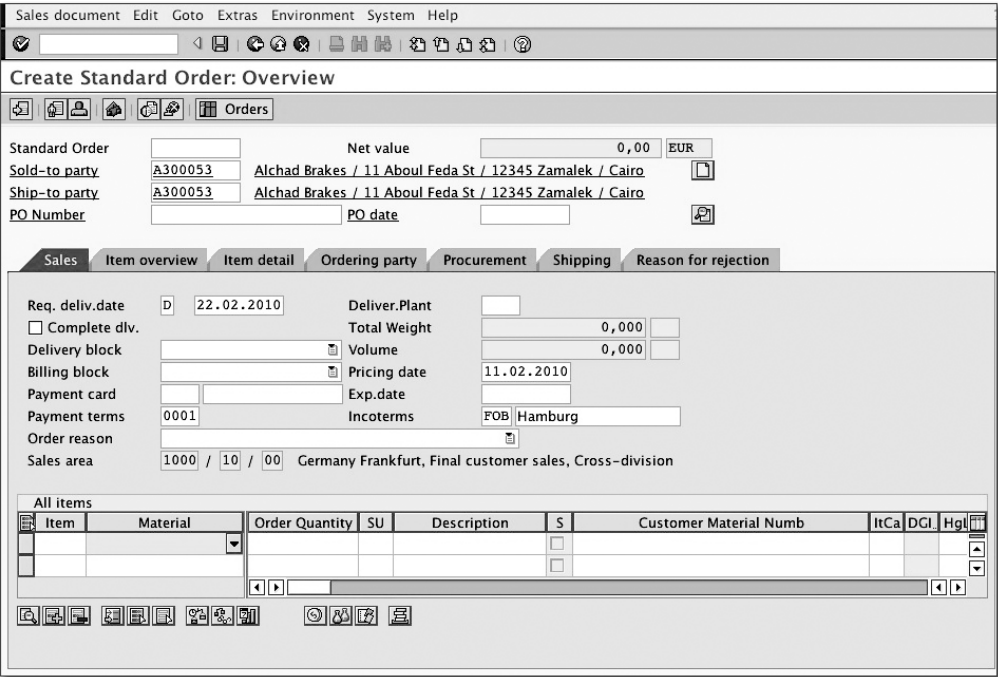

Figure 3.13 Create Standard Order – Overview Screen
2. Enter the number for the customer sold-to that you've maintained in your item proposal, as shown in Figure 3.13, and press **[Enter]** to determine other partners.
- 2. Enter the number for the customer sold-to that you've maintained in your item proposal, as shown earlier in Figure 3.13, and press `Enter` to determine the other partners.